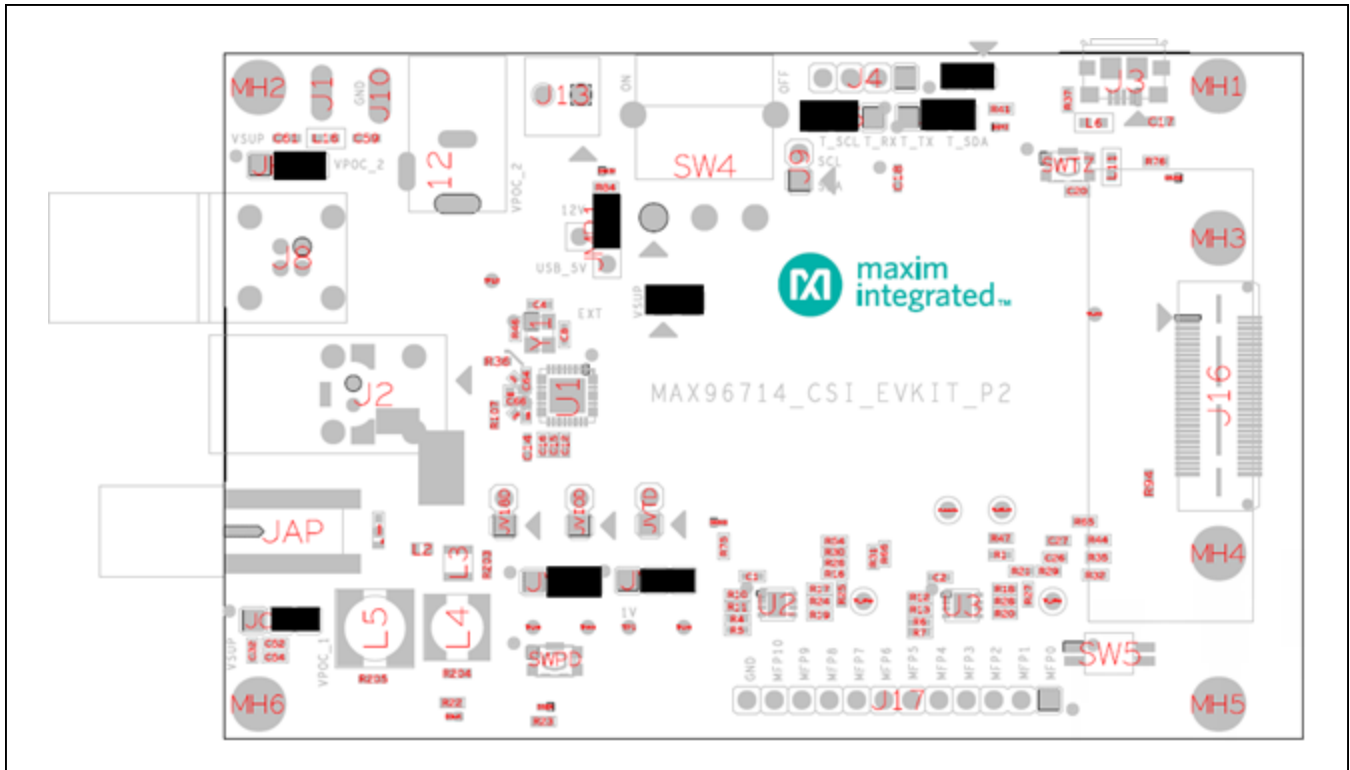

Figure 2. Deserializer Default Jumper Settings
- 3) Figure 2 shows the default positions of the on-board jumpers on the deserializer board in their default positions, with SW1 in the off position.